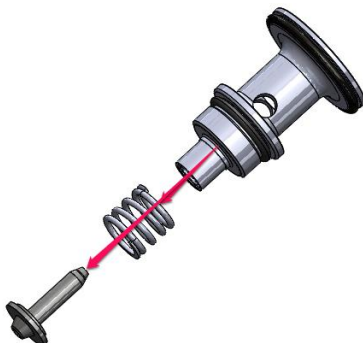

Fig. 2
5. Remove the HP poppet 6495 from the receiver 8041.8 and then remove the spring 6512 (Fig.2)